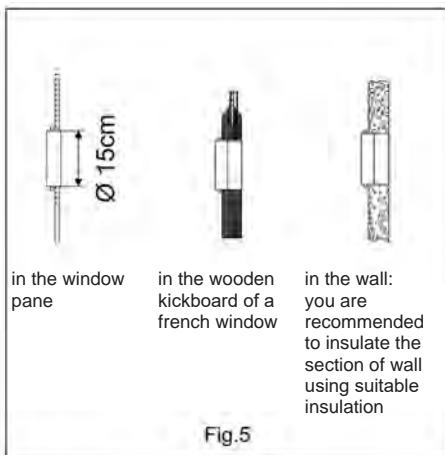

Fig.5
- Drill a hole in an outside wall or through a window pane. Ensure the MIN / MAX dimensions for the hole size and its position are adhered to. (Fig. 5 and 6)